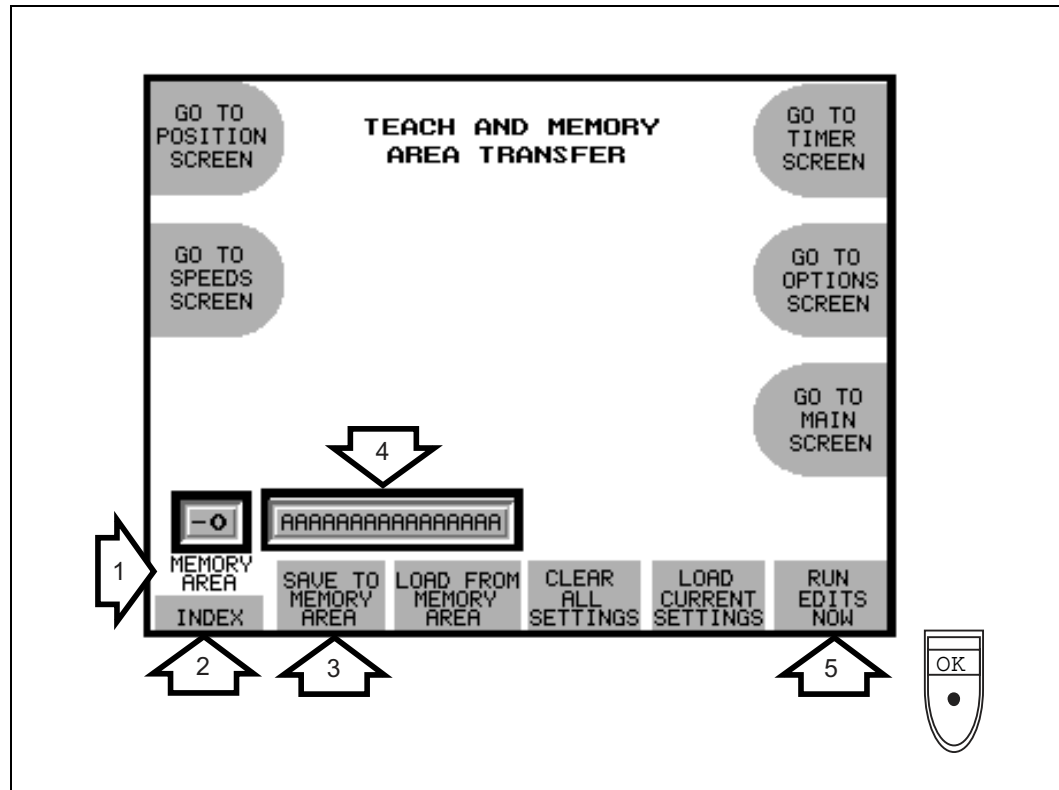

Figure 7-26: Teach and Memory Area Transfer Screen (Cont.)
4. Press the directional arrow keys to move to the second MEMORY AREA field (#4 on Figure 7-26).